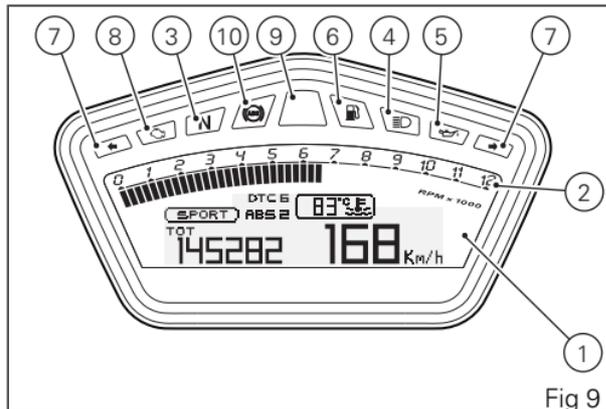

Fig 9
10) ABS LIGHT  (AMBER YELLOW) (Fig 9).